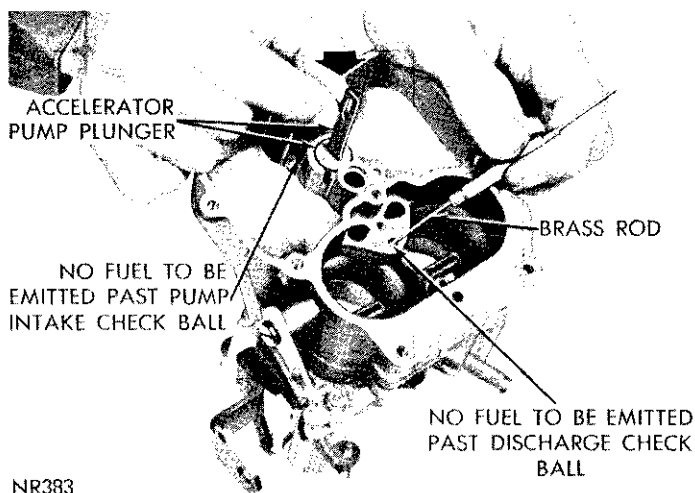

Fig. 8—Testing Accelerator Pump Intake and Discharge Check Balls
(1) Invert main body and place a new gasket in position and place throttle body on main body and align. Install screws and tighten securely.
(2) Install accelerator pump discharge check ball in discharge passage and check accelerator pump system; fuel inlet and discharge check balls as follows:
(3) Pour clean gasoline into carburetor bowl, approximately 1/2 inch deep. Remove pump plunger from jar of gasoline, flex leather several times, then slide down into pump cylinder. Raise plunger and press lightly on plunger shaft to expel all air from pump passage.
(4) Using a small clean brass rod, hold discharge check ball down firmly on its seat. Again raise plunger and press downward. No fuel should be emitted from either intake or discharge passage, (Fig. 8).